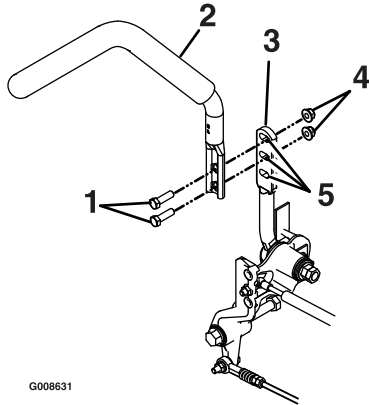

Figure 36
1. Remove the two bolts holding the control lever to the control arm shaft (Figure 36).
2. Loosen the lower bolt just enough to pivot the control lever fore or aft Figure 36. Tighten both bolts to secure the control in the new position.